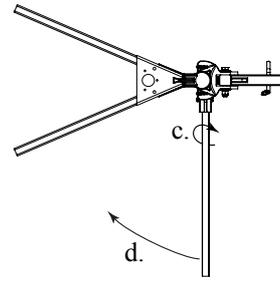

Figure 11b
- c. Rotate the arm back to the upright position, making sure the top knuckle of the trunnion slides into the top socket and past the top retainer pin - see *Figure 11b*.